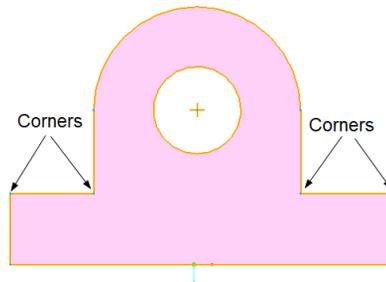

Figure 3-47 Corners to be filleted
1. Choose the **Circular Trim** option from the **Fillet** drop-down in the **Sketching** group; you are prompted to select the two entities to be filleted. The corners that you need to fillet are shown in Figure 3-47.